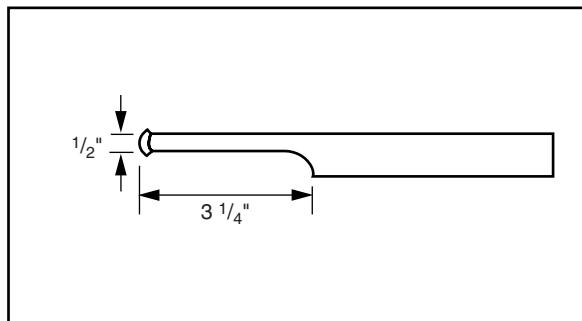

Figure 23.3 The finished tail.
1. The bolt is made from an 8-inch piece of $\frac{1}{4}$ - × 1-inch square bar. Forge the tail of the bolt first. The finished tail should be $\frac{1}{4} \times \frac{1}{2}$ inch and at least 3 $\frac{1}{4}$ inches long (Fig. 23.3).